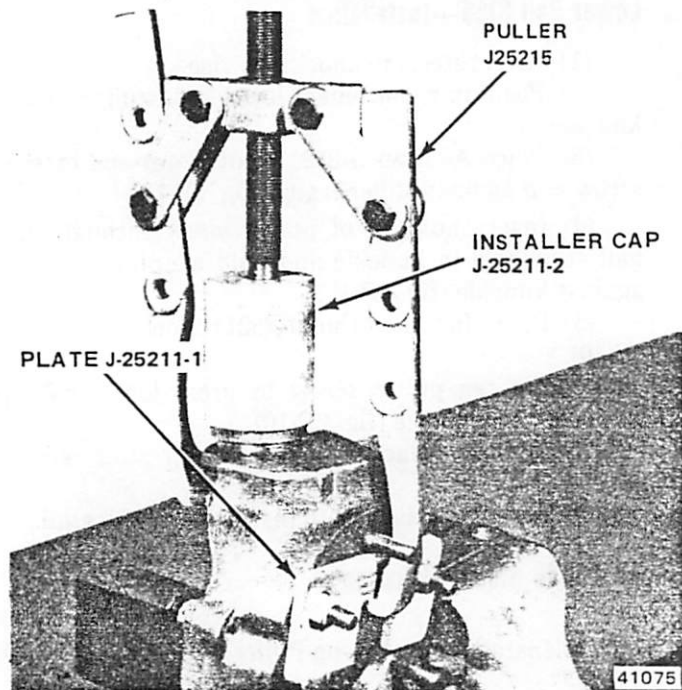

Fig. 2F-11 Upper Ball Stud Installation
(6) Tighten puller screw to press ball stud into steering knuckle (fig. 2F-11).
(7) Remove upper ball stud installation tools.